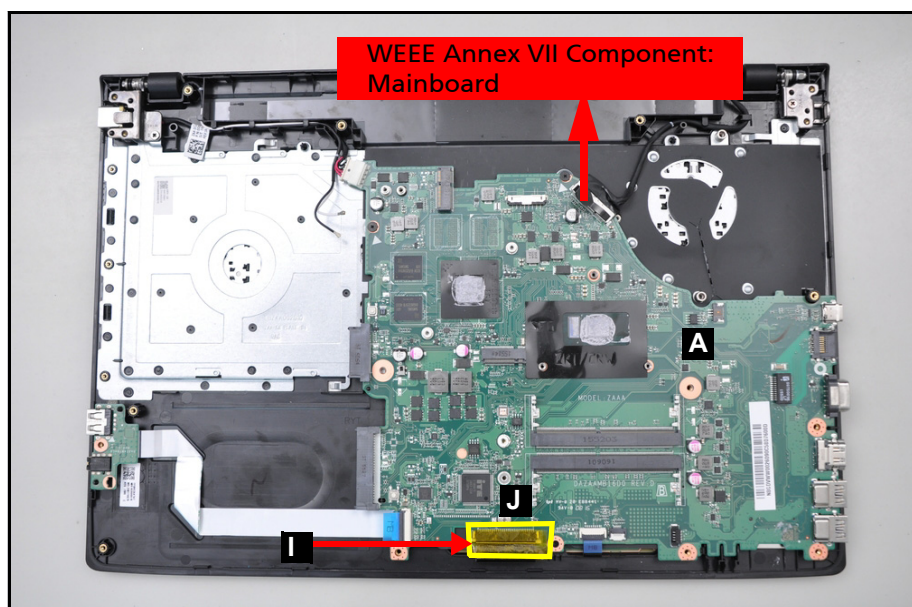

Figure 3-37. Mainboard Removal
1. Find the mainboard (A) on the top assembly (Figure 3-37).
2. Remove the keyboard connector tape (I) from the keyboard connector (J) (Figure 3-37).